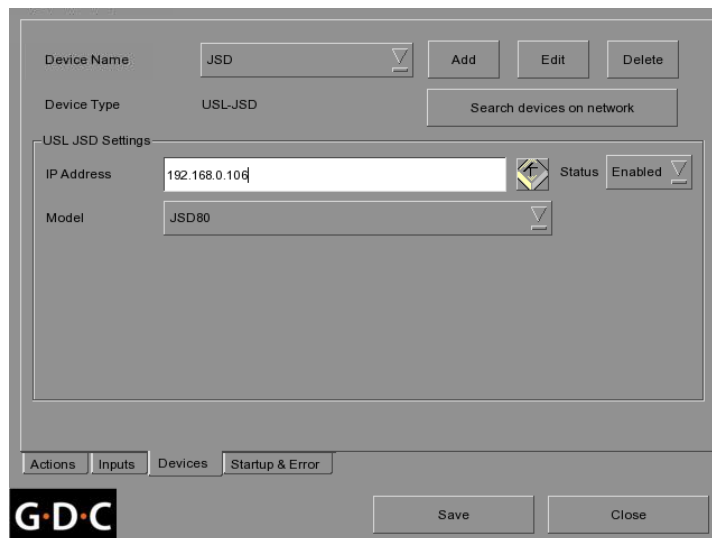

Figure 65 Automation settings for USL JSD device
3. Enter the IP address of the USL JSD device (see Figure 65).